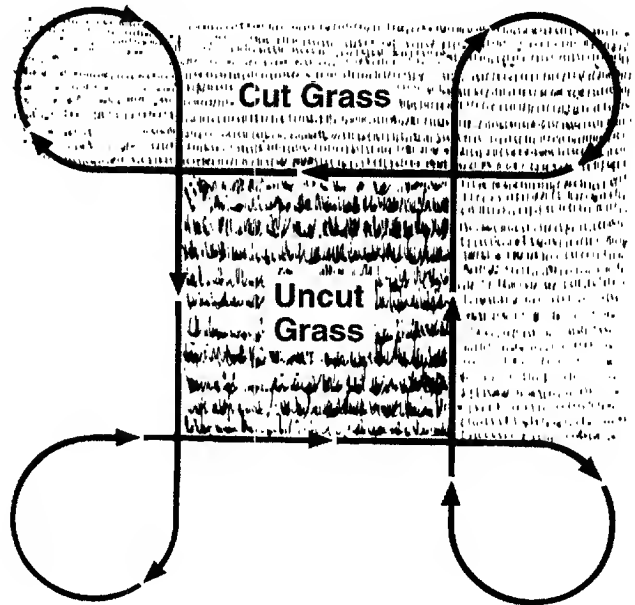

Figure 33
4. Follow the mowing pattern shown in Figure 33.